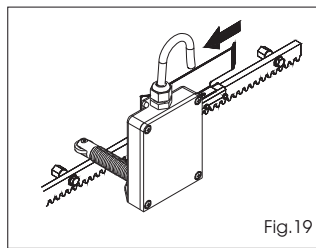

Fig. 19
- 6) Repeat the operations at points 4 and 5 for the closing limit switch, Fig. 19.